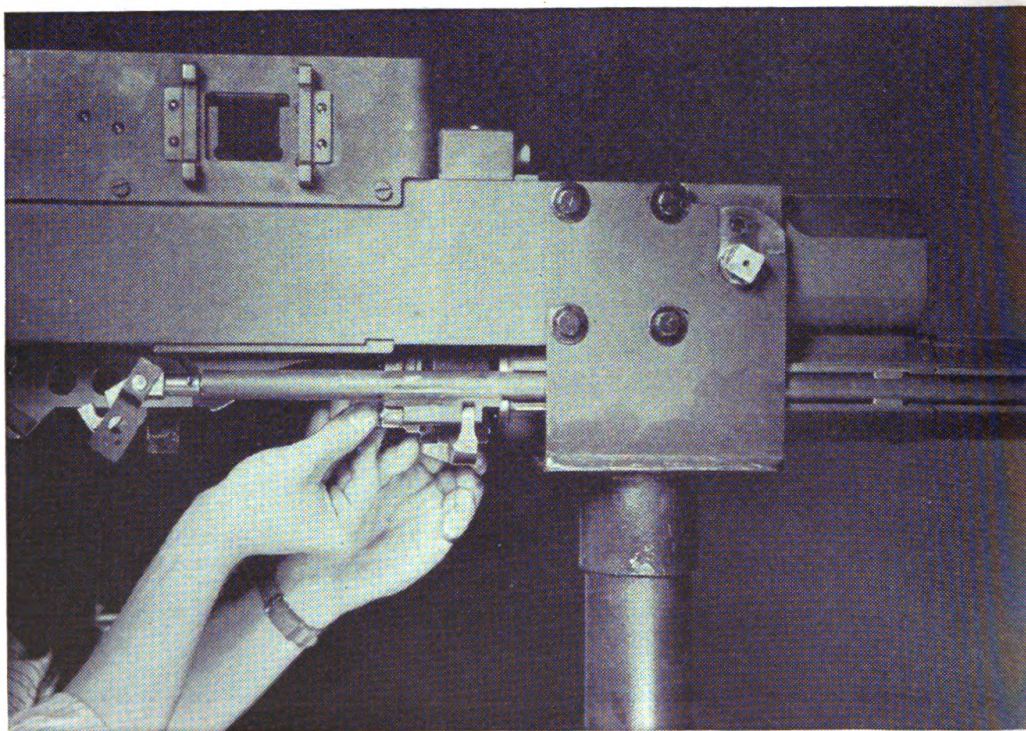

FIGURE 17.—Removing breechblock.
(2) Holding the breechblock stop depressed, catch the breechblock as it falls out (fig. 17).